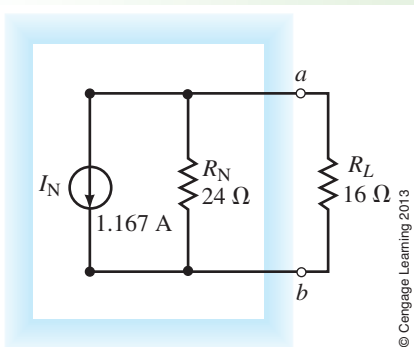

FIGURE 9-32
Step 6: The resultant Norton equivalent circuit is shown in Figure 9-32. Now we can easily find the current through load resistor R_L by using the current divider rule: